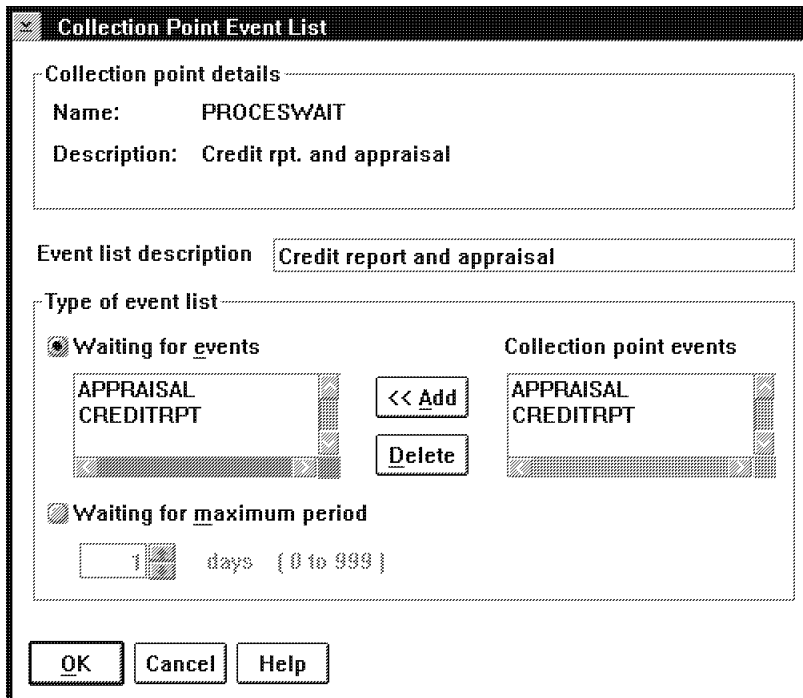

Figure 35. Collection Point Event List Window
1. Double-click mouse button 1 on the outbound connector from the collection point node in the work process diagram. You see the Collection Point Event List window shown in Figure 35.